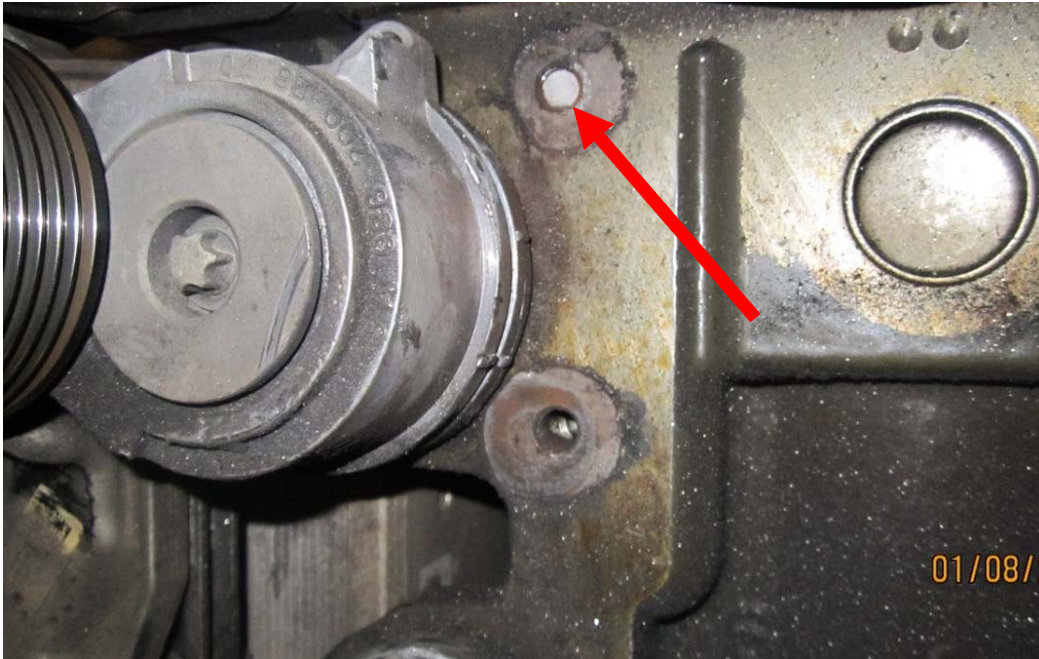

Figure 2 – Broken Bolt Example
5. For any fan hub bolts missing, did they break off and leave a portion of the bolt in the block? See Figure 2.